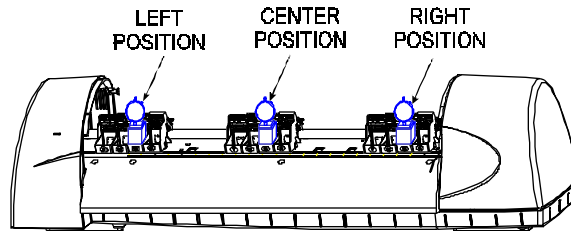

Figure 3-20. Carrier Positions for Head Height Adjustment.
7. While lifting up the measuring tip of the micrometer, slide the Carrier to the center of the stabilizer as shown in Figure 3-20. Position it as close to the screw as possible and drop the measuring tip onto the platen. Do this a couple of times to ensure an accurate reading.
10. While lifting up the measuring tip of the micrometer, slide the Carrier to the left of the stabilizer as shown in Figure 3-20. Position it as close to the screw as possible and drop the measuring tip onto the platen. Do this a couple of times to ensure an accurate reading.
13. While lifting up the measuring tip of the micrometer, slide the Carrier to the right of the stabilizer as shown in Figure 3-20. Position it as close to the screw as possible and drop the measuring tip onto the platen. Do this a couple of times to ensure an accurate reading.